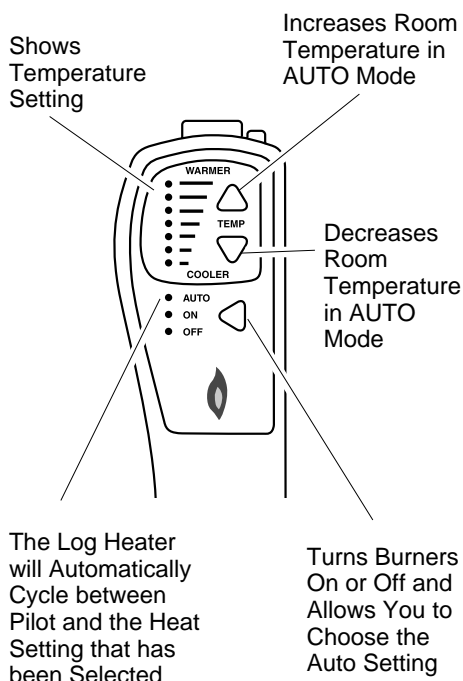

Figure 39 - Thermostat Hand-Held Remote Control Unit Selections (GHRCTA Series Only)
- 2b. Press the AUTO/ON/OFF button on the hand-held remote control (see Figure 39, page 20). The lights to the left of the button will show AUTO, ON, or OFF.